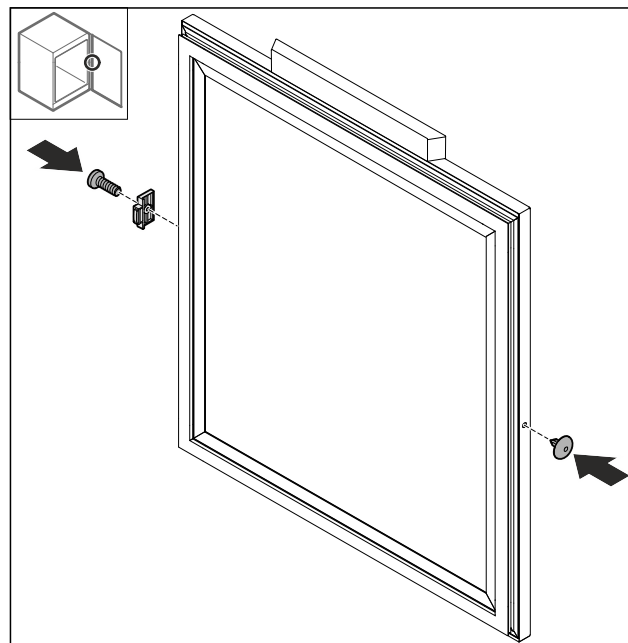

Fig. 48
- ▶ Mount the door stopper Fig. 48 (1) turned by 180° on the opposite side.
- ▶ Insert the cover Fig. 48 (2) on the opposite side.